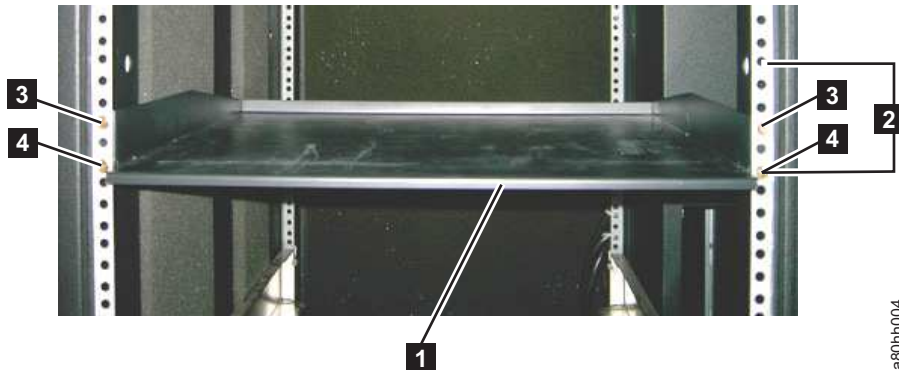

Figure 29. Front view of shelf attached to rack rails
1. Decide at what level you want to install the shelf. The 3580 requires two units (EIAs) of rack space (see **2** in Figure 29 on page 81).